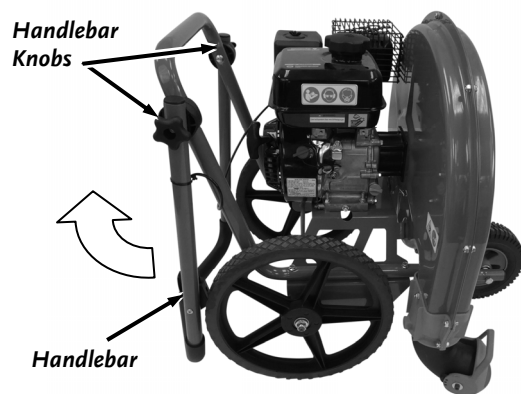

Figure 3
1. Ensure that the two Handlebar Knobs are loosened (**Figure 3**).